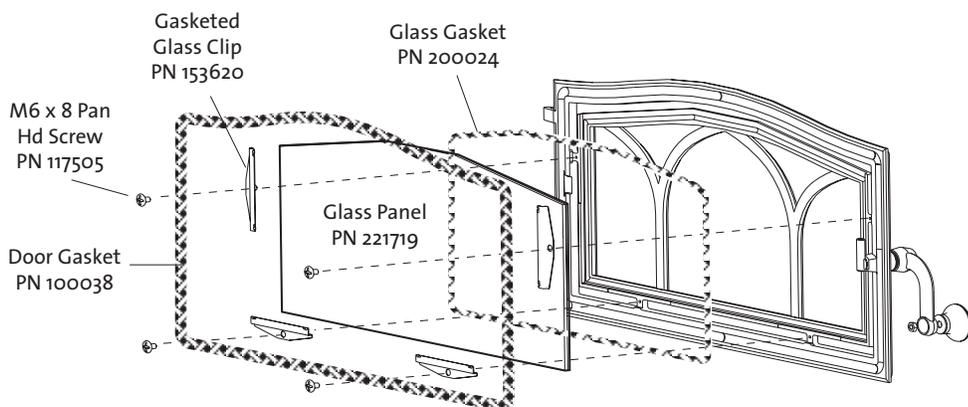

Figure 20.
2. First loosen and then carefully remove all of the glass clips from the inside of the door. See fig. 20.
See the chart below for replacement gasket specifications. See also fig. 20 for locations.